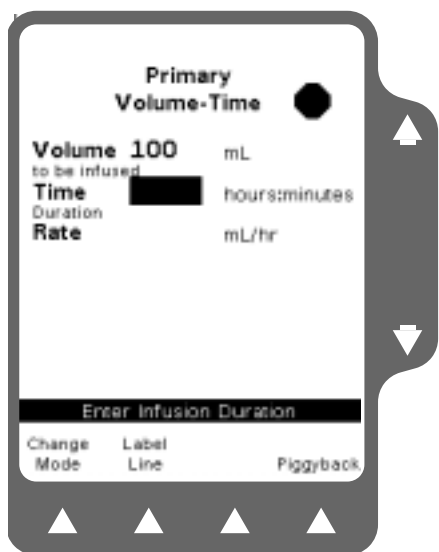

Figure 5-26 Enter Time Duration
5. Highlight Time Duration using the $\uparrow\downarrow$ keys. Use the key pad to enter the time period for the infusion in hours and minutes. The pump automatically calculates the flow rate (Figure 5-26).